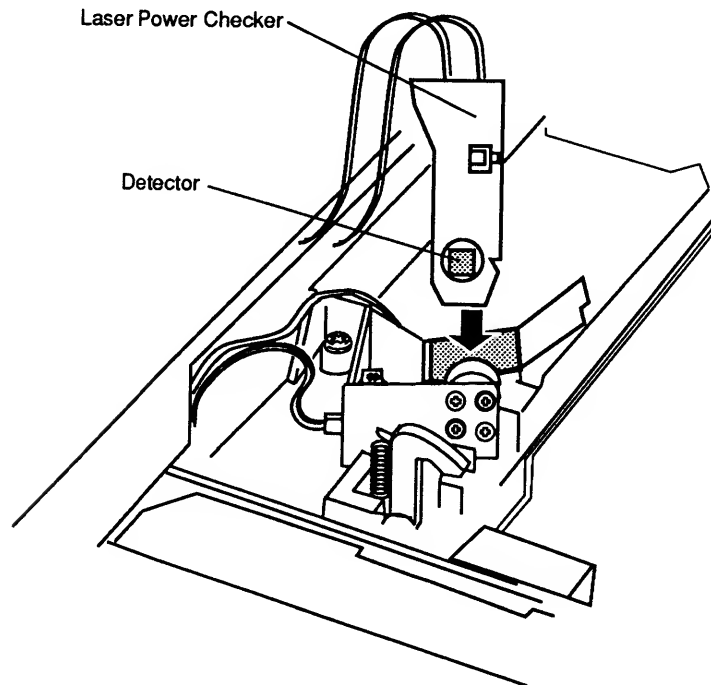

Figure 4-7 Inserting the Laser Power Checker
4. Insert the laser power checker into the laser access hatch with the detector facing the laser diode (**Figure 4-7**).